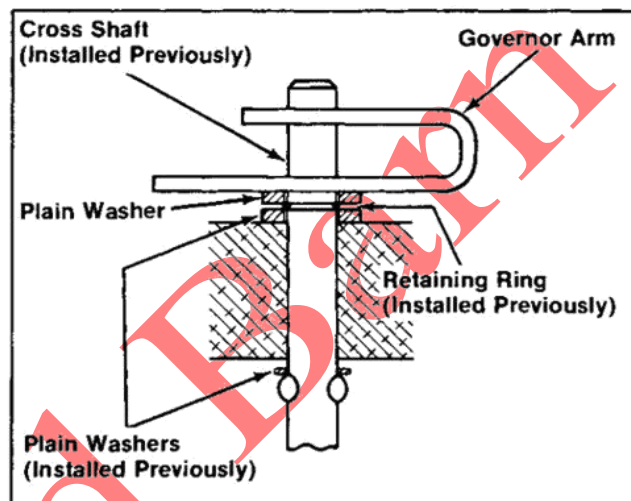

Figure 11-52. Installing Governor Arm To Cross Shaft.
5. Install the plain washer and governor arm to cross shaft. Refer to Figures 11-52, 11-53, and 11-54. Do not tighten hex nut on governor arm until linkages are installed and arm is adjusted (steps 6 and 7).